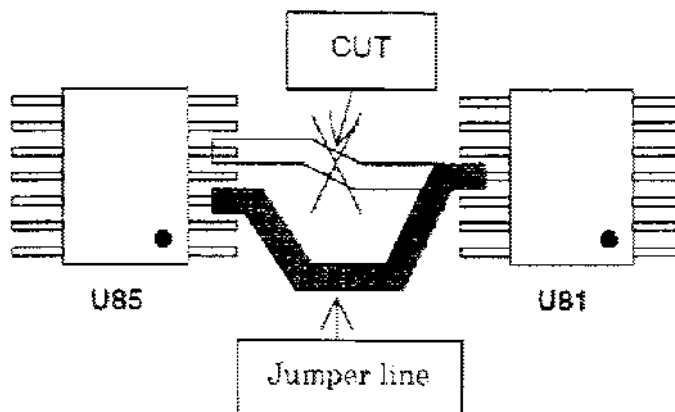

Fig.11 View of modification
- 1) Solder jumper referring Fig.11
- 2) Cut copper pattern referring Fig.11